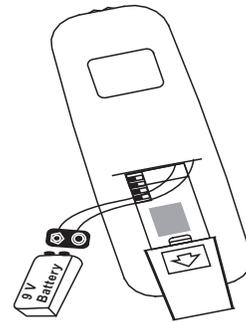

Figure 19
- Remove the battery cover from the remote control (H). Install a 9V battery (N) (included). (Figure 19)